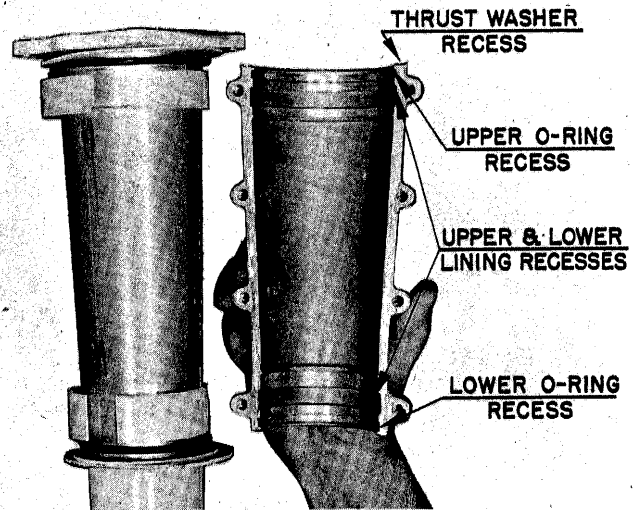

Figure 14
3. Carefully align O-rings, thrust washer and linings to match location of machined recesses in the rear swivel bracket half and fit the rear bracket to the exhaust tube (Figure 14).